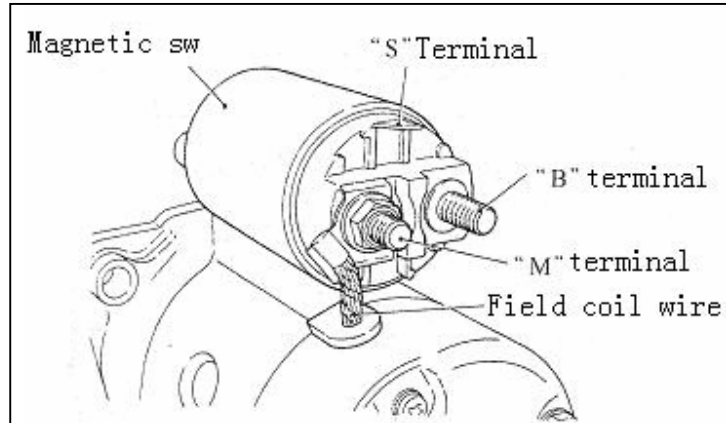

Fig. 9-11
(1) Magnetic Switch Removal see Fig.9-11: